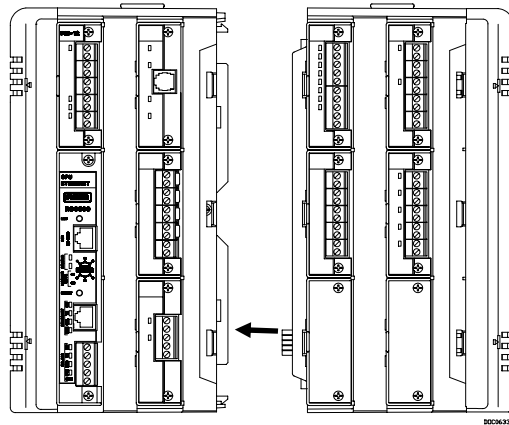

Figure 2-5. Power connector on the EXP Backplane
3. Align and gently press together the front right edge of the EXP against the front left edge of the ROC827. This aligns the power connector on the EXP’s backplane with the socket on the ROC827’s backplane (see Figure 2-5).
The ROC827 uses a standard ROC800-Series central processing unit (CPU) containing the microprocessor, the firmware, connectors to the backplane, the three built-in communication ports (two with LEDs), a LED low power wakeup button, a RESET button, the application License Key connectors, a STATUS LED indicating system integrity, and the main processor (refer to Figures 2-5 and 2-6 and Tables 2-1 and 2-2).
5. Place a small screwdriver under the ejector clip at the top or bottom of the CPU module and lightly pry the CPU module out of its socket. You may find it easiest to carefully pry on the top ejector clip a little, then carefully pry the bottom ejector (refer to Figure 2-5). You will feel and hear the CPU as it detaches from the backplane.
4. Tighten the two screws on the faceplate of the CPU module firmly (see Figure 2-5).